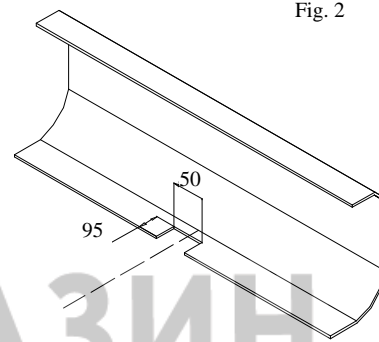
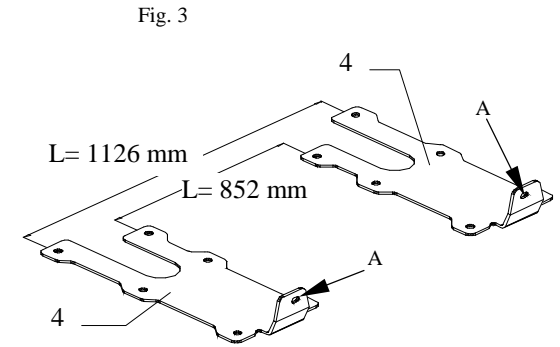

Fig. 2
Fig. 3
2. Cut out fragment of the bumper in bottom part, see fig. 2.
3. To factory prepared holes in rear part slip sleeves  $\varnothing 25 \times \varnothing 15$ ,  $L=25$  (pos. 10).
4. To the trunk put plates (pos. 4 and 5) in this way so holes A tally with holes with sleeves, see fig. 3.
6. Put plates again to the trunk, put bolts M10x35mm (pos. 14) to all drilled holes and bolts M10x50mm (pos. 13) through holes A, see fig. 3. On protruding bolts from below the car put adequately brackets (pos. 6, 7, 8, 9) as shown in the drawing and fix loosely.
7. To in this way prepared brackets (pos. 6, 7, 8, 9) fix main bar of the towing hitch (pos. 1) using bolts M10x35mm (pos. 14).
10. Fix tow-ball (pos. 2) and socket plate (pos. 3) using bolts M12x75mm (pos. 12) from accessories.